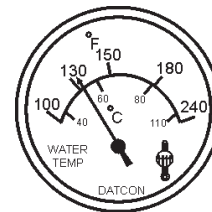

Figure 25. Coolant Temperature Gauge
9. The water temperature gauge (Figure 25) will indicate the coolant temperature. Under normal operating conditions the coolant temperature is between 165 and 215 degrees fahrenheit.